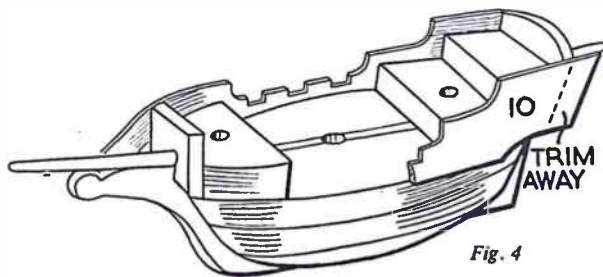

Fig. 4
addition of the bulwarks (10) is shown in Fig. 4. These are glued in place and later trimmed to fit.
The arm rests, side bracings, and the back rails are in  $\frac{1}{4}$  in. ply (see Fig. 4). For these you will require a piece of ply 18 in. by 12 in.